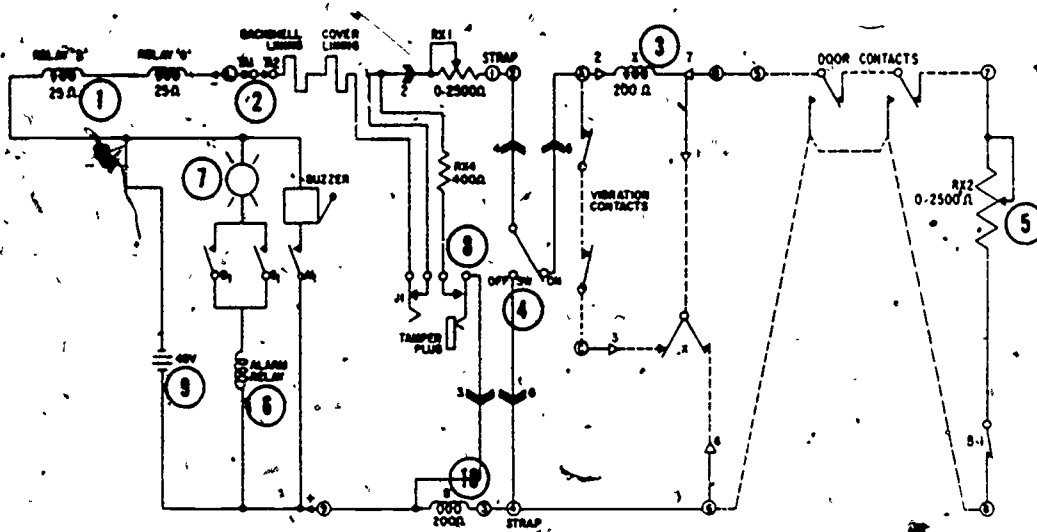

Figure 2. 5912-CL Local Unit
1. Using the trainer, figure 2 of workbook and meter, locate and correct any trouble found in the system.
2. In the spaces below, write in the nomenclature of the items identified in figure 2. by corresponding numbers.